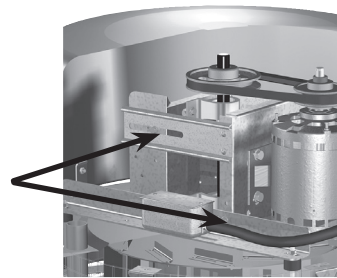

Figure 12
7. Belt tension can be adjusted by loosening four fasteners on the drive frame, see Figure 12. The motor plate slides on the slotted adjusting arms and drive frame angles in the same manner. Four (4) fasteners in total. Identical fasteners on opposing side must also be loosened.